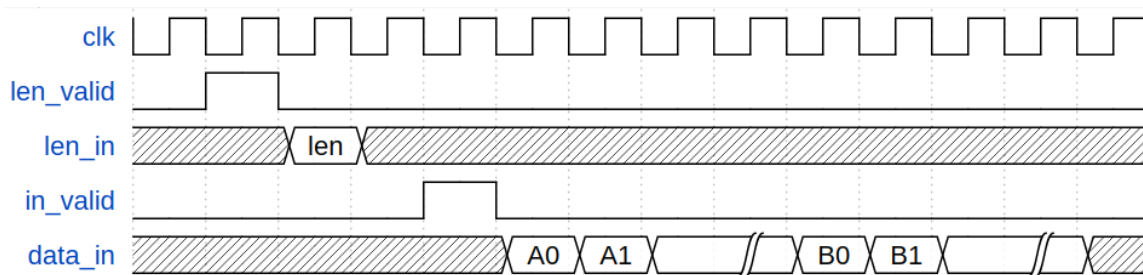

Figure 1: Input Protocol
6. Multiplier will start its operation as soon as it receives the last input. Multiplier will not accept any more input until it is done multiplying and outputs the result. An example timing diagram for input operation is shown in Figure 1.